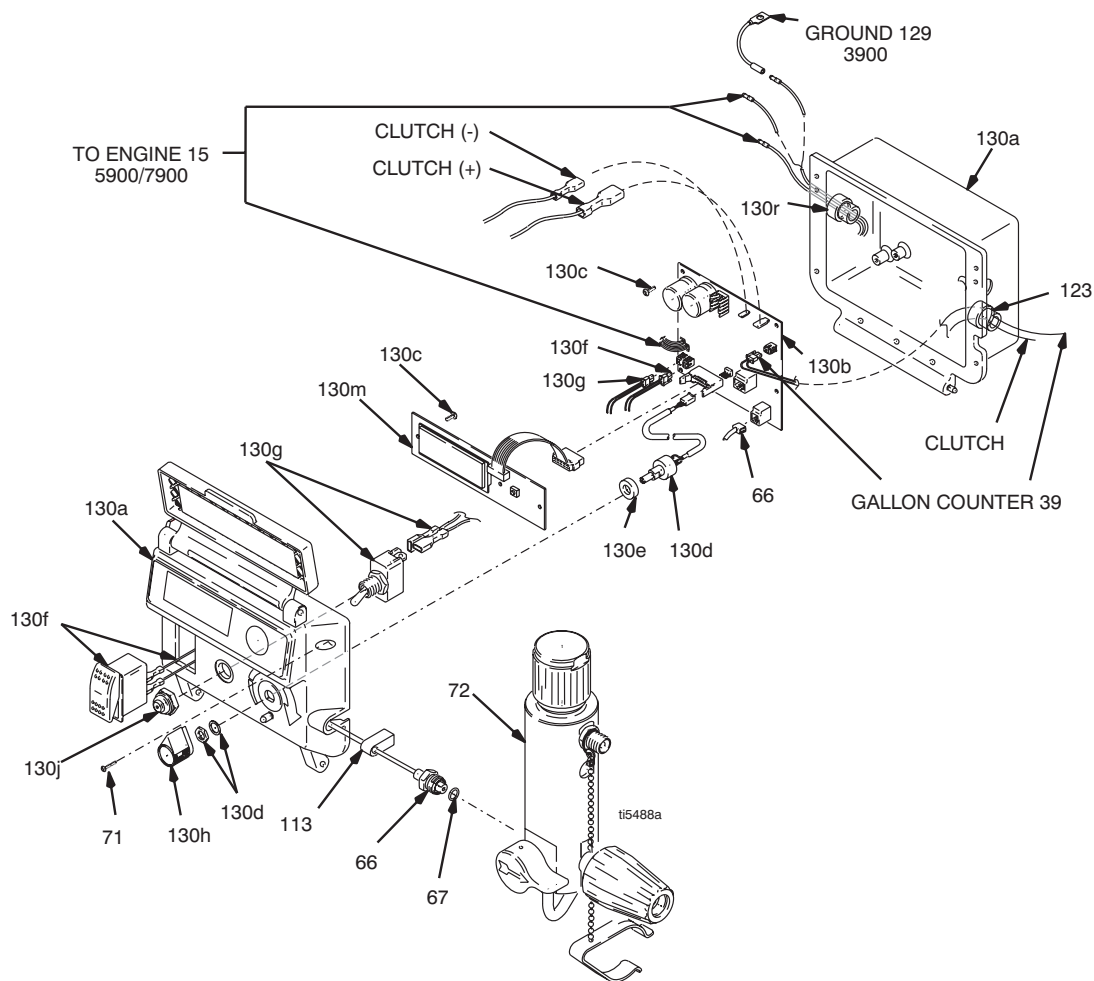

FIG. 14
- a. FIG. 14. Remove two screws (71) and swing down cover (130a).
12. FIG. 14. Connect clutch cable connectors to inside of pressure control.
1. FIG. 14. Remove two screws (71) and swing down cover (130a).
- FIG. 14. Remove two screws (71) and swing down cover (130a)
- Lead from transducer (66)
- Lead from gallon counter sensor (39)
- FIG. 14. Install control board (130b) with four screws (130c).
- Disconnect transducer (66) lead from control board (130b).
- Pull transducer connector through rubber grommet (113).
- Remove pressure control transducer (66) and o-ring (67) from filter housing (72).
- FIG. 14. Install o-ring (67) and pressure control transducer (66) in filter housing (72). Torque to 35 - 45 ft-lb.
- Connect transducer (66) lead to control board (130b).
- Swing up cover (130a) and secure with two screws (71).
- FIG. 14. Install potentiometer, shaft nut, lock washer and potentiometer knob (130h).